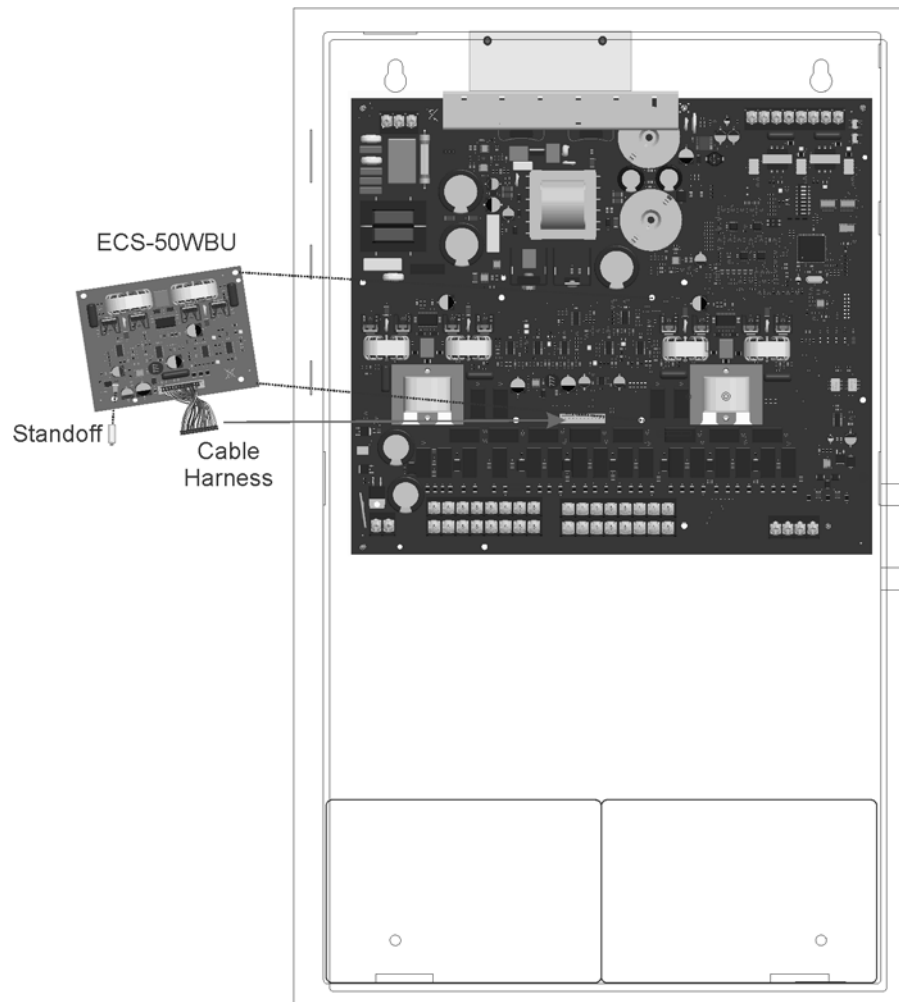

Figure 4-75 Mounting the ECS-50WBU
2. Connect the backup amplifier cable harness (P/N 50116775-001) from the connector labeled "Backup Amplifier" on the ECS-DUAL50W to the connector on the ECS-50WBU as shown in Figure 4-75.
3. Using the 4 supplied screws, mount the ECS-50WBU to the standoff's as shown in Figure 4-75.